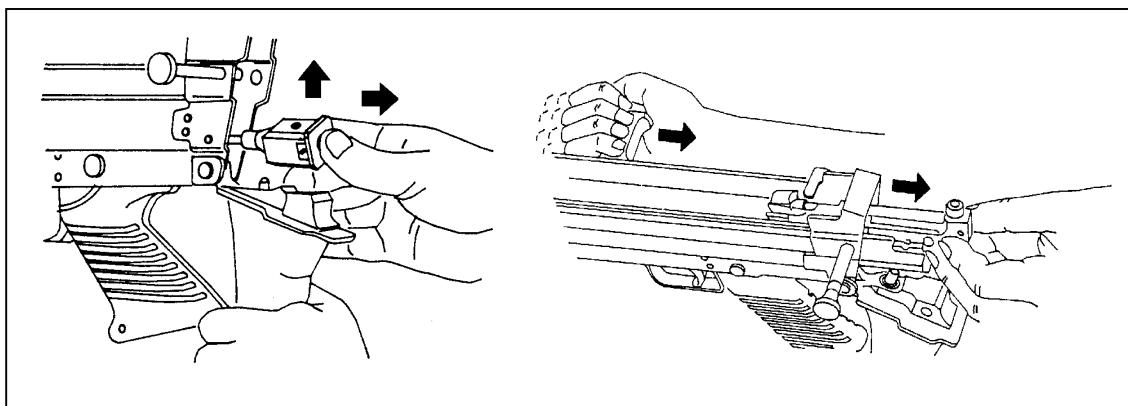

Figure 1-10. Removal of the operating rod group.
a. **Removing the Operating Rod Group.** The operating rod group (Figure 1-10), operating rod spring, slide assembly, piston assembly, and bolt assembly consists of the spring guide rod.
(1) To remove the operating rod, pull the upper retaining pin at the rear of the receiver to the left. Allow the buttstock to pivot downward and place it on a surface to support the weapon for disassembly.
(2) To release the operating rod assembly from the positioning grooves inside the receiver, hold the weapon with one hand on the buttstock assembly. Use the thumb of the other hand to push in and upward on the rear of the operating rod assembly.
(3) Pull the operating rod and spring from the receiver group and separate the parts.
(4) Hold the buttstock assembly with your left hand to stabilize the weapon. With your right hand, pull the cocking handle to the rear to lock the bolt. Return the cocking handle to the forward position. Place a finger on the face of the bolt and push until your finger makes contact with the bridge at the end of the receiver. This leaves the piston, slide, and bolt assemblies exposed.
(5) Hold the slide assembly while pulling the moving parts out the rear of the receiver. This leaves the piston, slide, and bolt assemblies exposed.